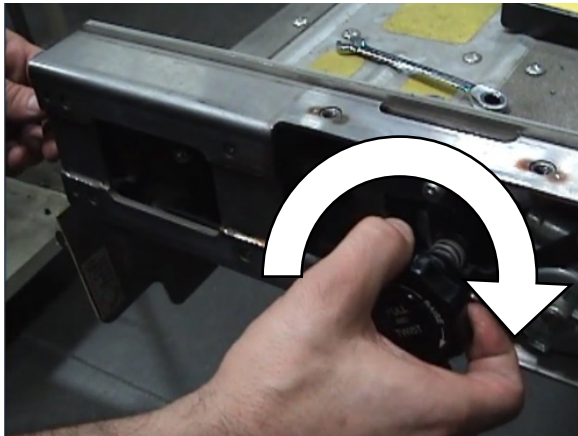

FIGURE 4-18: TURN MANUAL RELEASE KNOB CW TO LOCKED POSITION
- 8) Refer to **Figure 4-18**. Rotate Manual Release Knob CW to return Rollstop mechanism to the locked position. Returning Rollstop mechanism to locked position also moves Actuating Linkage out of the way for Rollstop adjustment.